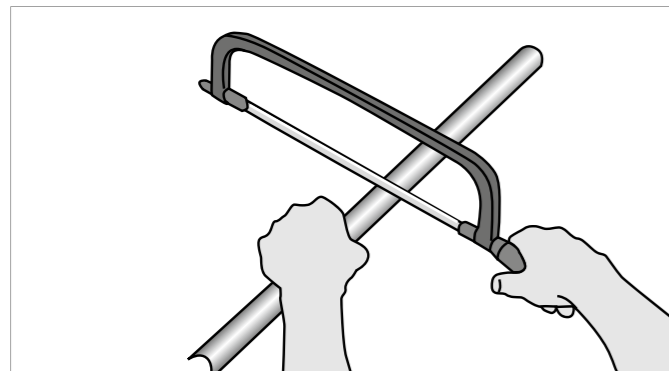

Fig. 13-6 Cutting off pipe support channel
1. Cut off the pipe support channel with a metal saw (see Fig. 13-6). Maintain a safe distance between your holding hand and the cutting tool. Saw pipe support channels from the rounded rear side, not the open side so that they are not bent open at their bordered ends.